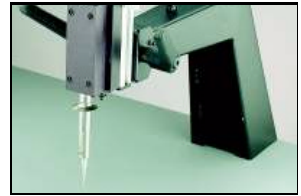

Figure 4: Bond the new BGA pad with a Bonding Iron or Circuit Bonding System.
11. Position the circuit board so that it is flat and stable. Gently place the hot Bonding Tip onto the tape covering the new BGA pad. Apply light downward pressure for 5 seconds to tack the new BGA pad in place. (See Figure 4).